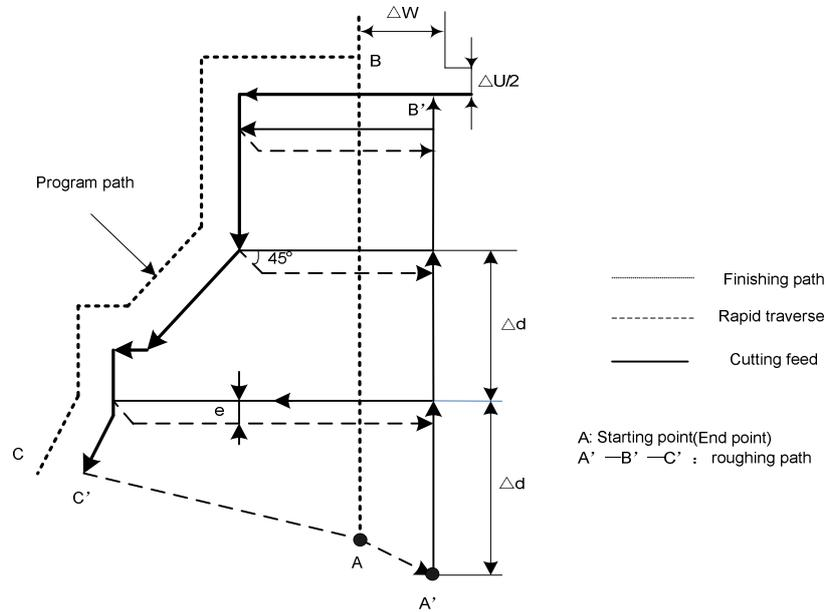

Fig. 3-25 G71 cycle path
1) Execution process: (Fig. 3-25)
- ① X rapidly traverses to A' from A point, X travel is Δu , and Z travel is Δw ;
- ② X moves from A' is Δd (tool infeed), ns block is for tool infeed at rapid traverse speed with G0, is for tool infeed at feedrate F with G71, and its direction of tool infeed is that of A→B point;
- ③ Z executes the cutting feeds to the roughing path, and its direction is the same that of Z coordinate A→B point;
- ④ X, Z execute the tool retraction e (45° straight line) at feedrate, the directions of tool retraction is opposite to that of too infeed;
- ⑤ Z rapidly retracts at rapid traverse speed to the position which is the same that of Z coordinate;
- ⑥ After executing X tool infeed ($\Delta d + e$) again, the end point of traversing tool is still on the middle point of straight line between A' and B'(the tool does not reach or exceed B'), and after executing the tool infeed ($\Delta d + e$) again, execute ③; after executing the tool infeed ($\Delta d + e$) again, the end point of tool traversing reaches B' point or exceeds the straight line